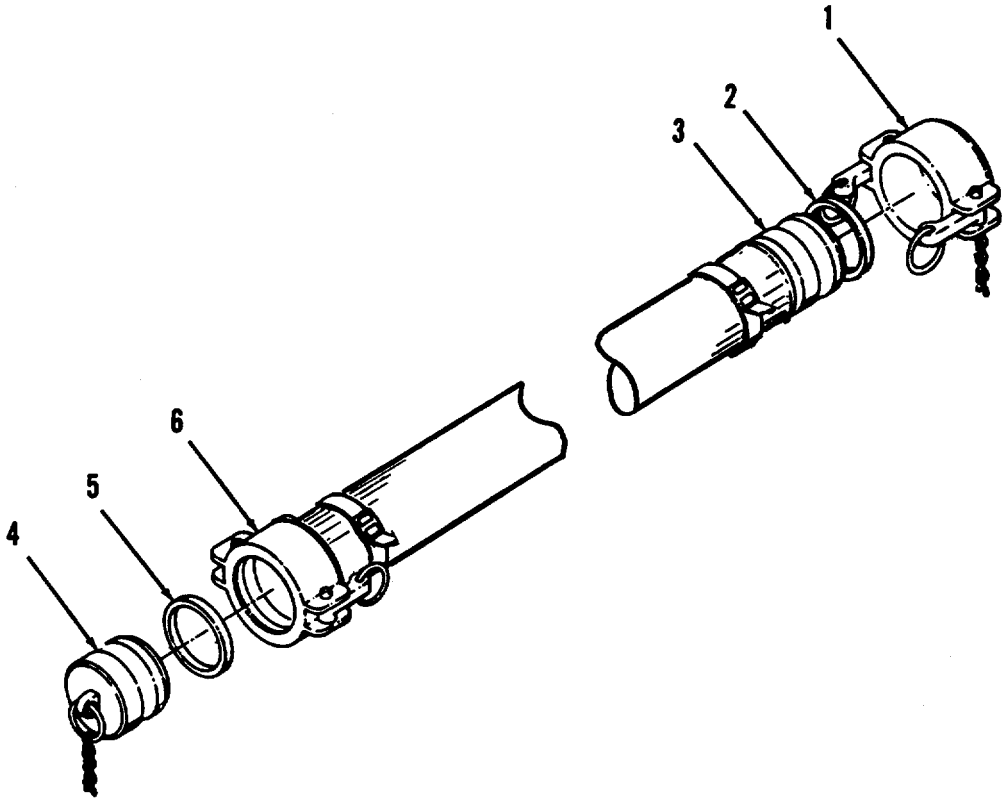

Figure 3-1. Hose Assembly (Suction and Discharge) Replacement and Repair.
- a. Disassembly.** (Refer to Figure 3-1).
- (1) Remove hose assembly to be repaired from the pump assembly.
- (2) Remove quick disconnect cap (1) and gasket (2) from coupling half (3).
- (3) Remove quick disconnect plug (4) and gasket (5) from coupling half (6).